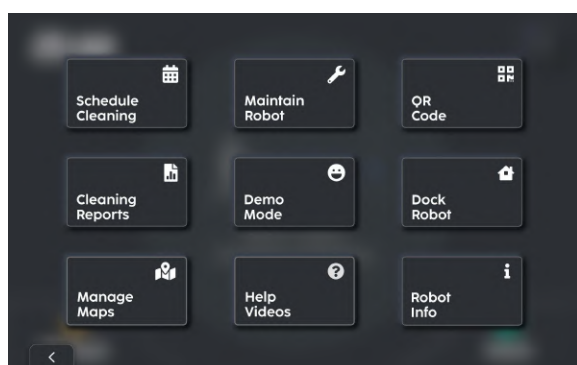

FIGURE 10-5
1. Click "More Options" and select "Maintain Robot" (**Fig. 10-5**).